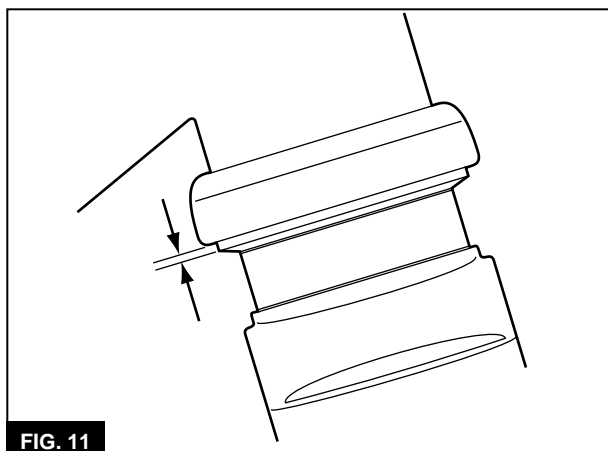

FIG. 11
7. Visually inspect the position of cone in the adjustable race and in the fork crown. Note how far the cone protrudes from its respective cup (**Figure 11**). This will help during assembly.